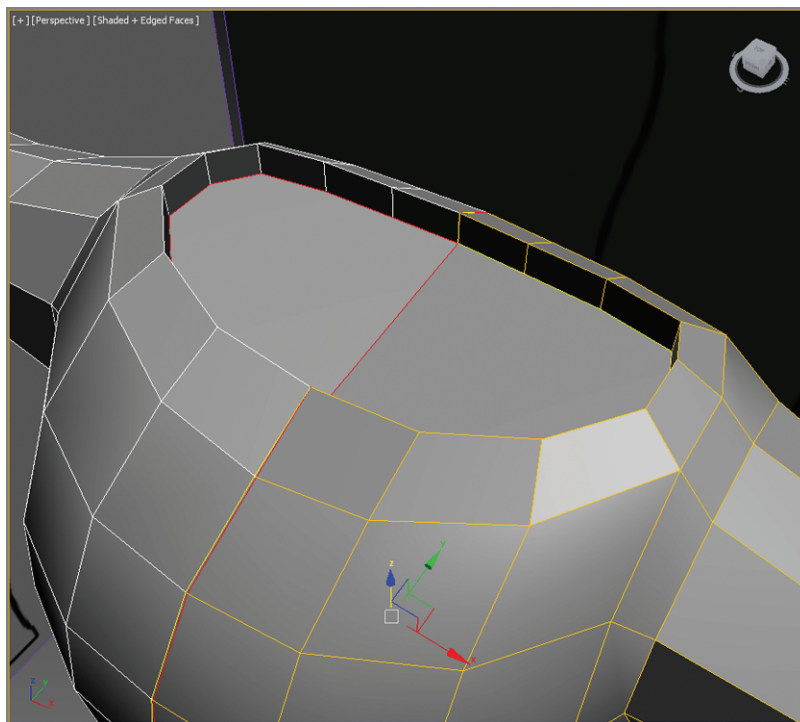

FIGURE 8.4 The soldier model shown with the newly created lip and Cap Poly
13. On the Graphite Modeling Tools tab > Geometry (All) panel, click Cap Poly. A Cap Poly caps an entire border loop with a single polygon (see Figure 8.4).